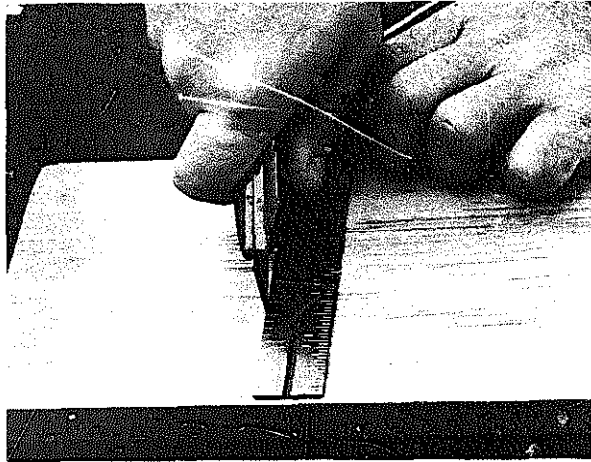

Fig. 4-55 Using a knife for very accurate work.
3. For very accurate work, use a knife line for layout work, as shown in figure 4-55.